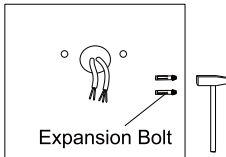

figure 10
2. Knock the expansion bolts (provided) into the wall.(Figure 10)